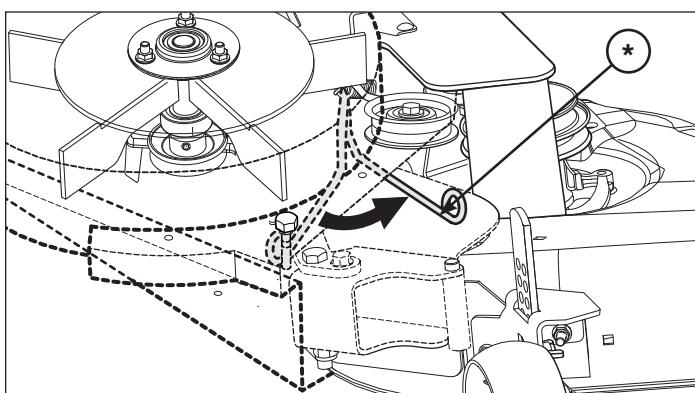

Figure 35
4. Pull belt tension lever (*, Figure 35) away from the discharge opening to remove tension from the belt.